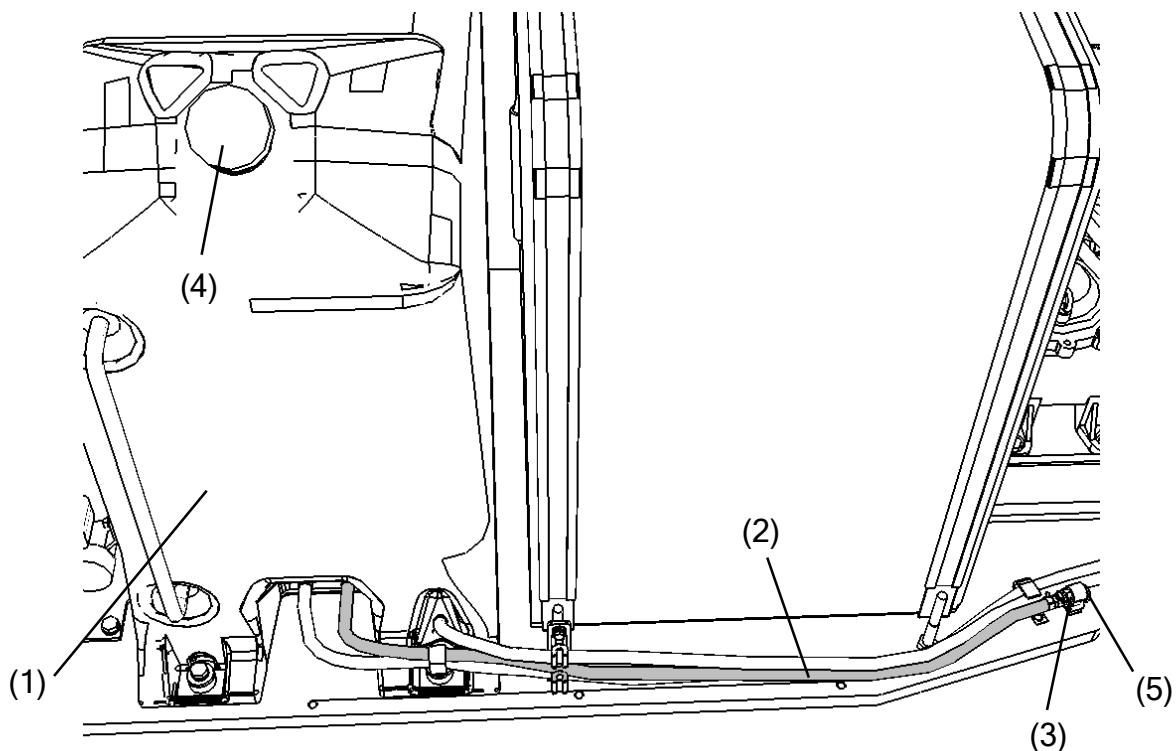

Fig.9-10
1. Position an approved container under the diesel fuel tank (**Fig.9-10, (1)**) to collect the contaminants.
2. Take the drain hose (**Fig.9-10, (2)**) from the clamp (**Fig.9-10, (3)**), and then put the end of the hose into the container.
3. Remove the fuel cap (**Fig.9-10, (4)**).
4. Remove the drain plug (**Fig.9-10, (5)**) from the hose end to drain the contaminants (water, dirt, etc.) from the bottom of the tank.